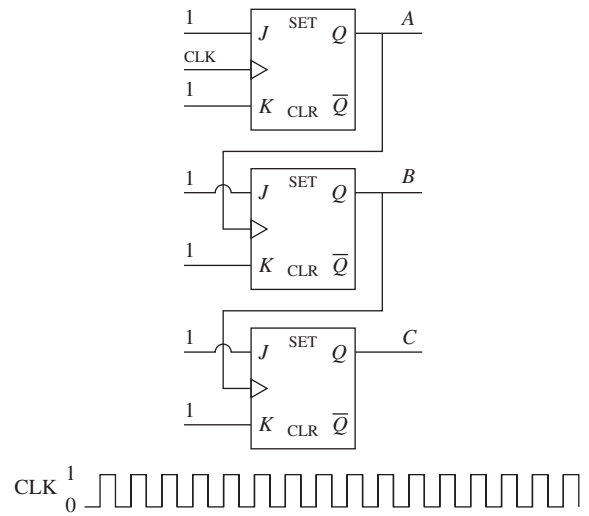

FIGURE P10.65 Frequency divider and clock wave.
10.65 (H) A frequency divider and the input clock are shown in Figure P10.65, and its initial outputs are all zeros. Draw the output waveform of A , B , and C .